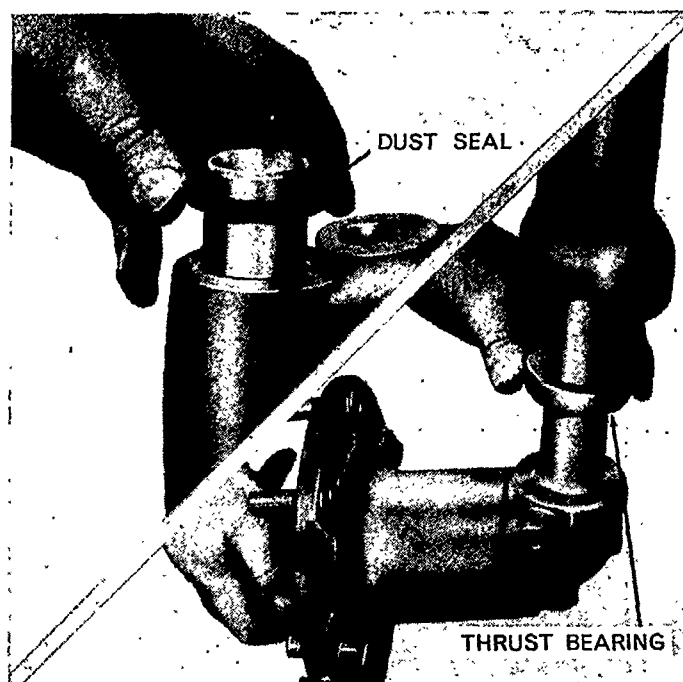

Figure 3
1. Pack the wheel spindle thrust bearing and install on the wheel spindle. Make sure that the shroud is to the top, this is indicated on the bearing by the Manufacturer's reference stamped on this face, and in some instances the word 'Top', Figure 3.
3. Install a new wheel spindle dust seal with the groove in the periphery of the seal nearest the base, Figure 3.